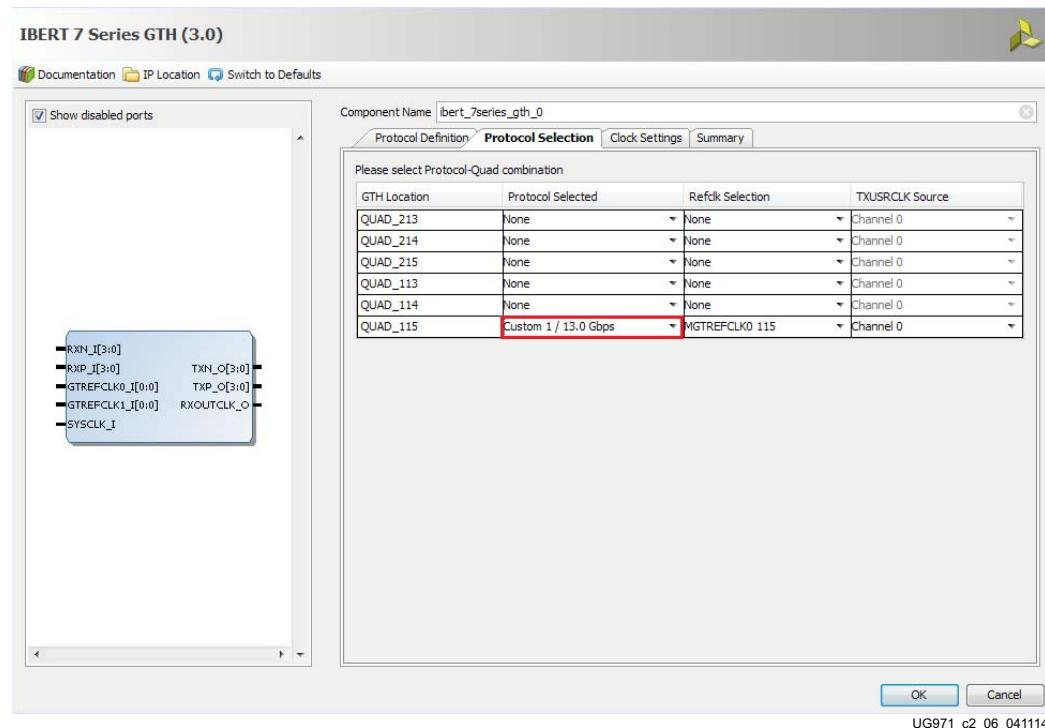

Figure 2-6: **Customize IP - Protocol Selection**
8. In the Protocol Selection tab, use the **Protocol Selected** drop-down menu next to QUAD_115 to select **Custom 1/13.0 Gbps** (Figure 2-6).